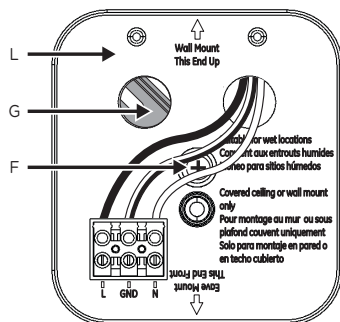

Figure 8
- i. The house power supply wires will have to be cut from the Push-in quick wire connectors, the fixture wires will have to be routed through the correct back mounting plate (L) hole and gasket (H), then re-connected to the house power supply using standard wire nuts, not provided.
9) Install the back mounting plate (L):
- a. Observing the directional arrow on the back mounting plate (L) for the selected wall or eave mount installation, position the back mounting plate (L) with the selected installation arrow in the indicated direction over the mounting bracket (G) attached to the junction box (see **Figure 8**).
- b. Arrange the wires inside the junction box. Ensure all wires are fed into the junction box and are not “pinched” under the edges of the back mounting plate (L) or mounting bracket (G).
- c. Insert the mounting bolt (F) through the back mounting plate (L), through the gasket (H) and thread it into the center hole of the mounting bracket (G) (see **Figure 8**).
- d. Tighten, by hand with Phillips screwdriver, the mounting bolt (F) securely. Do not overtighten or use an electric screwdriver as this may crack the back mounting plate (L).